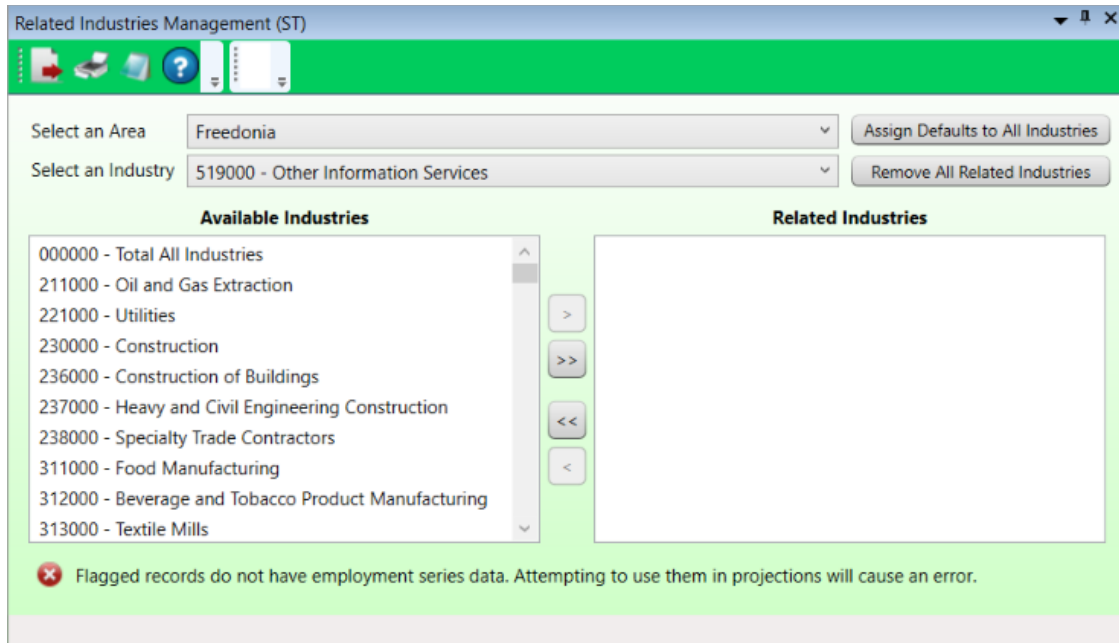

Figure 3: Available Industries are displayed
1. **Select an Area** and **Industry** from the drop-down menus. The available industries for those choices display in the **Available Industries** table. In Figure 3, you can see that no default industries have been assigned to industry 519000 - Other Information Services in the **Related Industries** table.